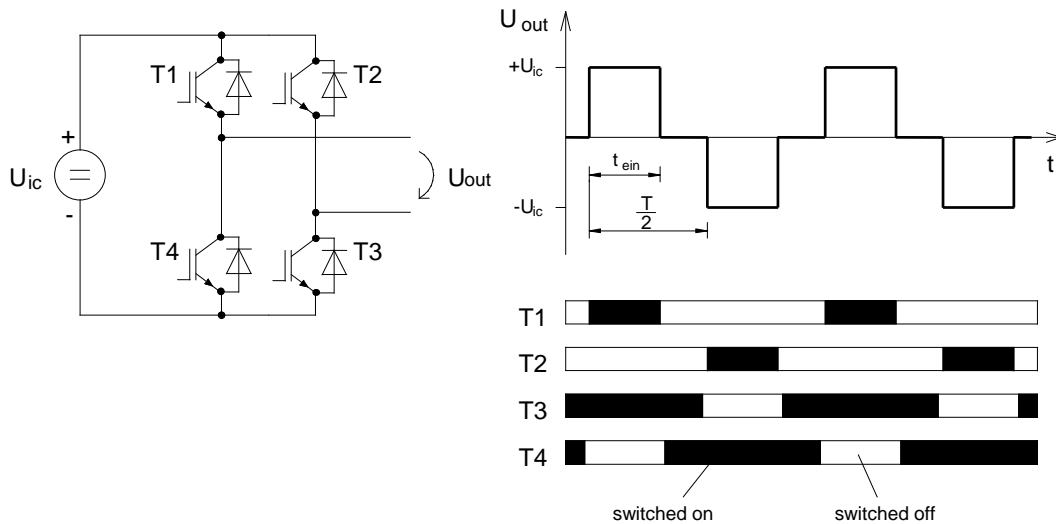

Fig. 4: Functioning principle of the inverter
Fig. 4 shows the general function of the inverter bridge for generation of a symmetrical square-wave voltage with variable duty. The transistors T1 and T4 constitute the IGBT module V4, and T2 and T3 the module V5.
- The supply voltages of the p.c. boards are also not shut down in case of an EMERGENCY OFF command. Thus, it is possible for the inverter control system to turn on the two lower transistors in *Fig. 4* permanently. Thus, the decay current finds a low-ohmic path via one transistor and one freewheeling diode each.